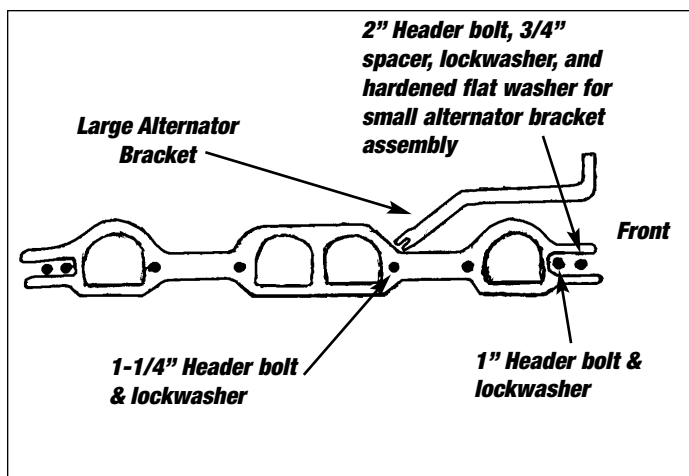

Fig. 1
14. After referring to **Fig. 1**, install all manifold bolts and tighten except header bolt #4 (3/8"-16 x 1-1/4") which stays loose to accept large alternator bracket.